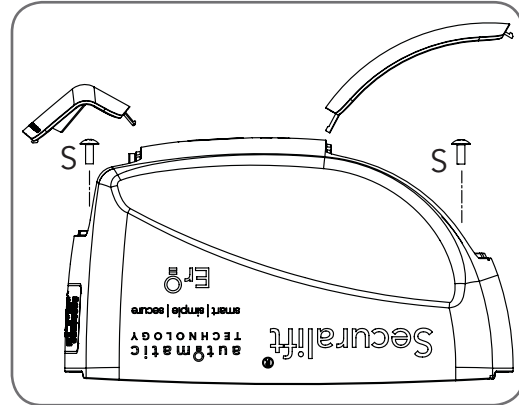

Fig 50
- Swing open the light diffuser and controls cover. Remove screws marked "S" above in fig and lift up the main cover. (Fig 50).